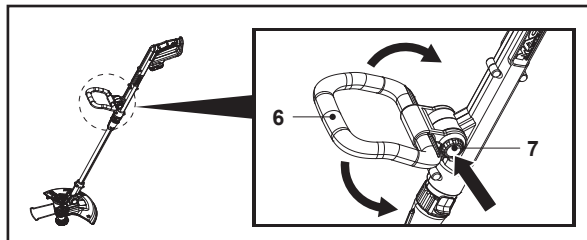

Fig. 4
1. Press the auxiliary handle lock (7) (Fig. 4).
2. Adjust the auxiliary handle (6) (Fig. 4).
3. Release the auxiliary handle lock (7).
4. Make sure that the auxiliary handle (6) locks in place.